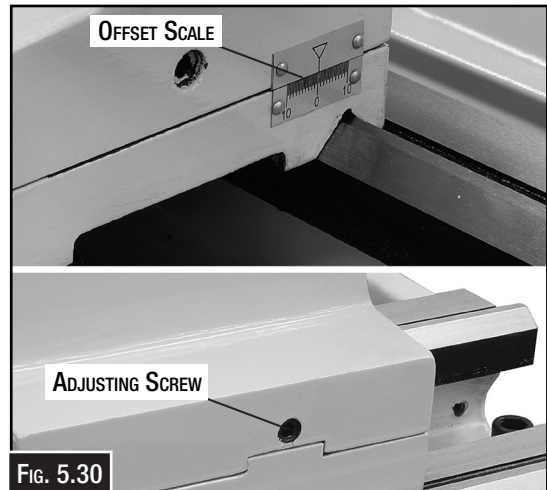

FIG. 5.30
By offsetting the tailstock, the dead center can hold a workpiece off centre from the spindle centerline so tapers and pipe threads can be cut. An offset scale (Fig. 5.30) with increments is located at the rear of the tailstock. However, to achieve exact taper angles, or to adjust the tailstock back into the spindle centerline, angle gauges and a test indicator must be used.
2. Using a hex wrench loosen one of the front or rear adjustment screws shown in Fig. 5.30